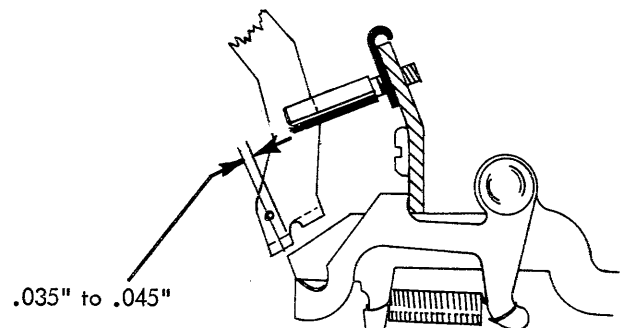

FIGURE 111. Keylever Pawl Overlap Adjustment
1. Keylever Pawl Overlap - Adjust each keylever pawl guide stud so that all the keylever pawls overlap their respective interposers by .035" to .045" with both parts at rest (Fig. 111).